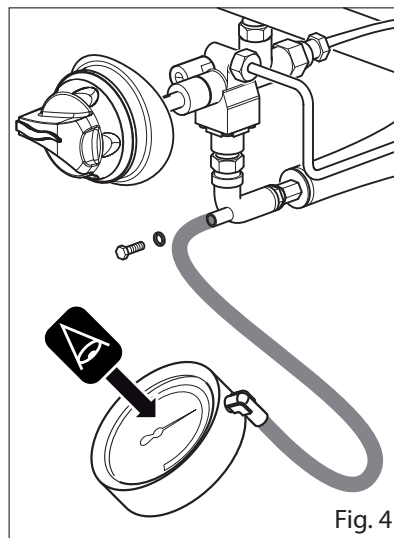

Fig. 4
- unscrew the pressure intake screw (Fig. 4);